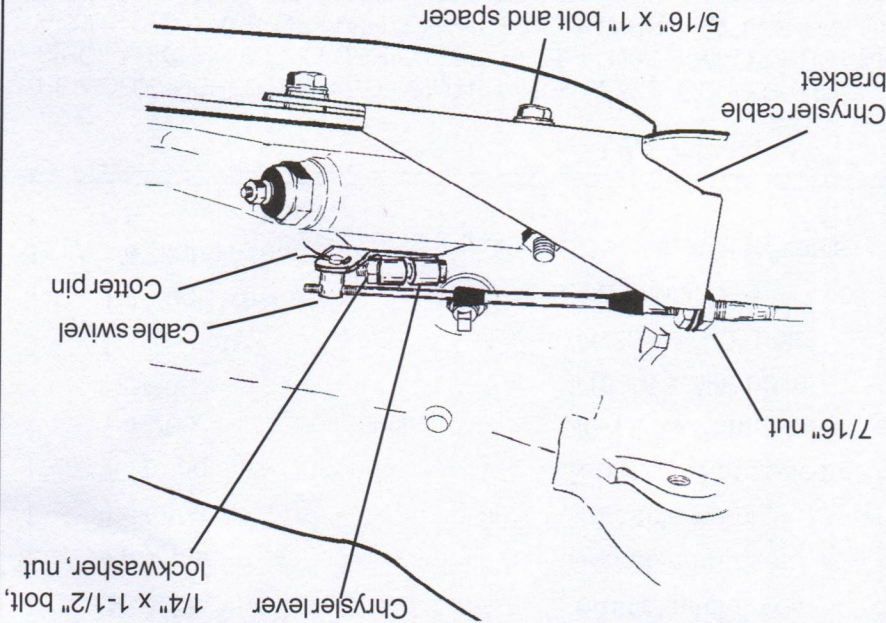

Figure 6
STEP 19. If you have not already done so, loosen the pinch bolt on the throttle lever on the transmission. This is the lever on the small diameter shaft. Pry the lever off with a screwdriver and allow the linkage to hang free. Remove and discard the stock shift lever and the stock shift linkage. Install the **B&M** selector lever in position and tighten the pinch bolt securely (See Figure 6). Make sure the lever is not pushed down so far as to touch the transmission case. This will cause the lever to bind on the case. The lever should travel smoothly from front to back with a positive click in each gear position. Install the stock throttle lever in position on the small diameter shaft as removed and tighten the pinch bolt securely. The throttle lever must operate smoothly.
STEP 20. Remove the two transmission oil pan bolts directly below the shift lever. Install the cable bracket in position (See Figure 6) with two spac-